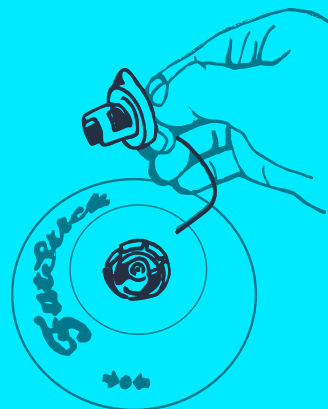

Fig 1
1. Remove dust cap covering valve (it may already be off; it's on the end of the string). **See Fig 1**